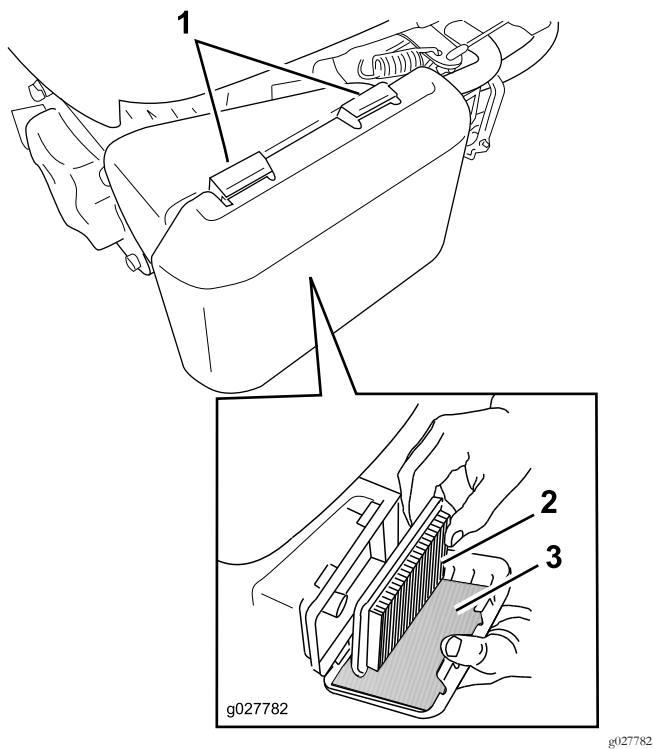

Figure 26
1. Press down on the latch tabs on top of the air-filter cover (Figure 26).
3. Remove the paper air filter and the foam pre-filter (Figure 26).